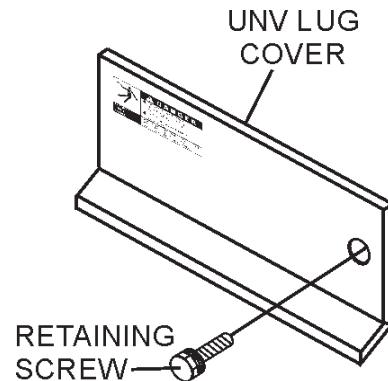

Figure 18. UNV Lug Cover
3. After attaching the load wires to the AC output terminals, secure the UNV cover by inserting the retaining screw (Figure 18) back into the cover.